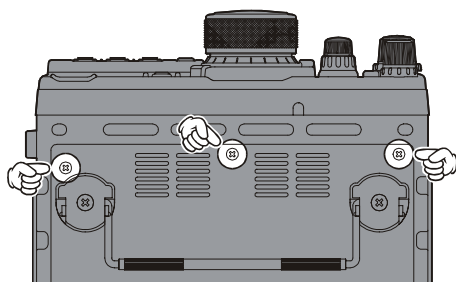

Figure 1
2. Remove the six screws (three screws on bottom side and rear side), then lift off the bottom cover (Figure 1 and 2).